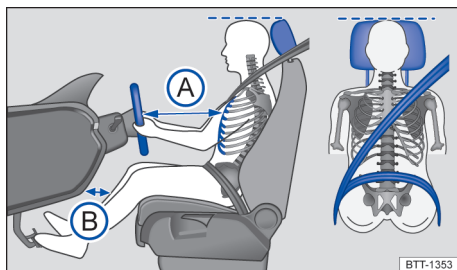

Fig. 18 Schematic diagram: Safe distance between driver and steering wheel, correct adjustment of seat belt and head restraints
- Adjust the head restraints so that the upper edge of the head restraints is equal to the top of the head, but not lower than the eyes, and the back of the head should be as close to the head restraints as possible → Fig. 18.